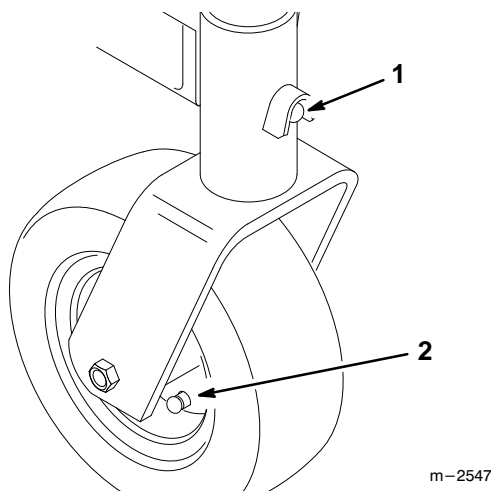

Figure 22
3. Grease the fittings on the carrier frame mounting tubes and castor wheels (Fig. 22).